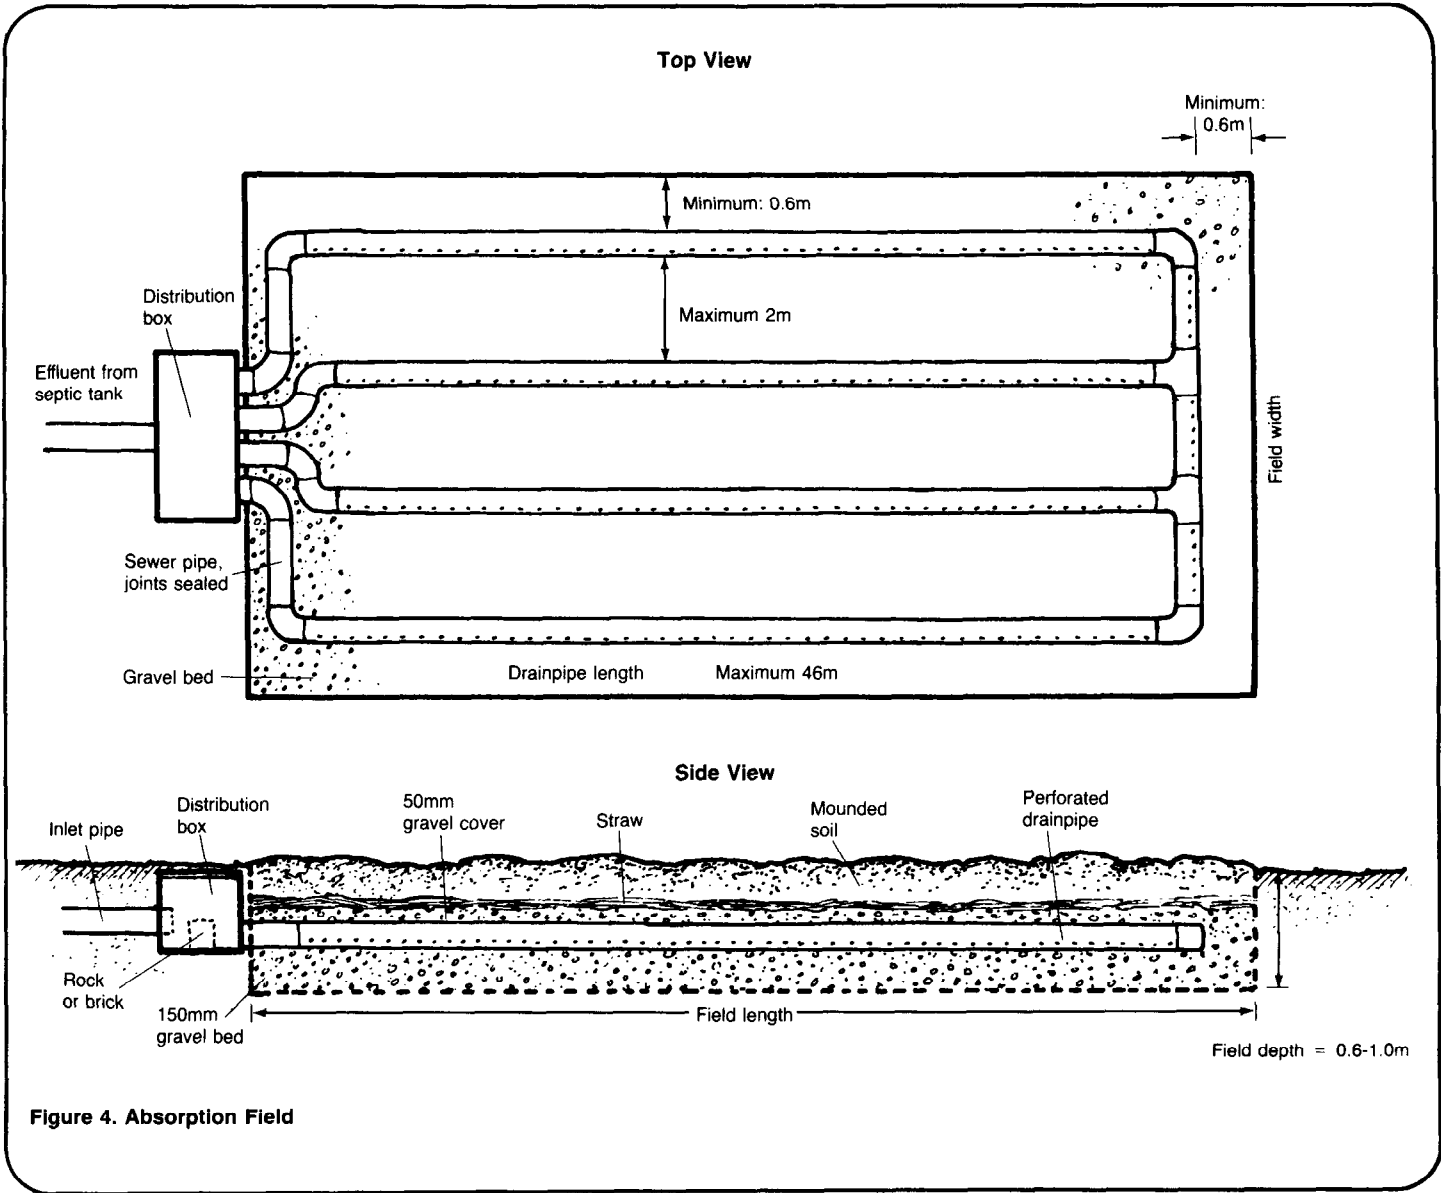
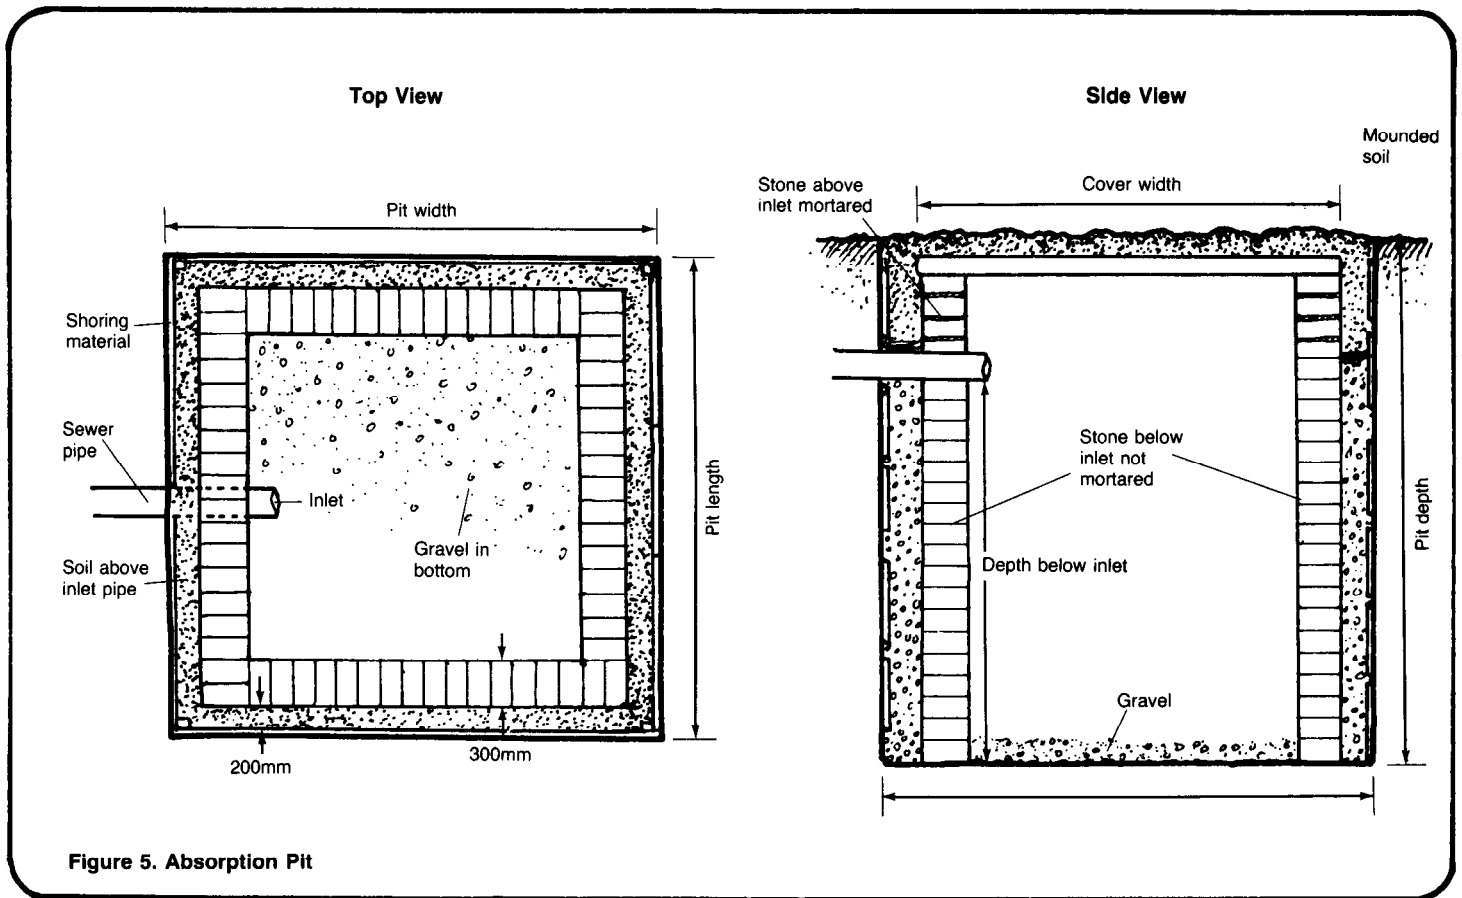
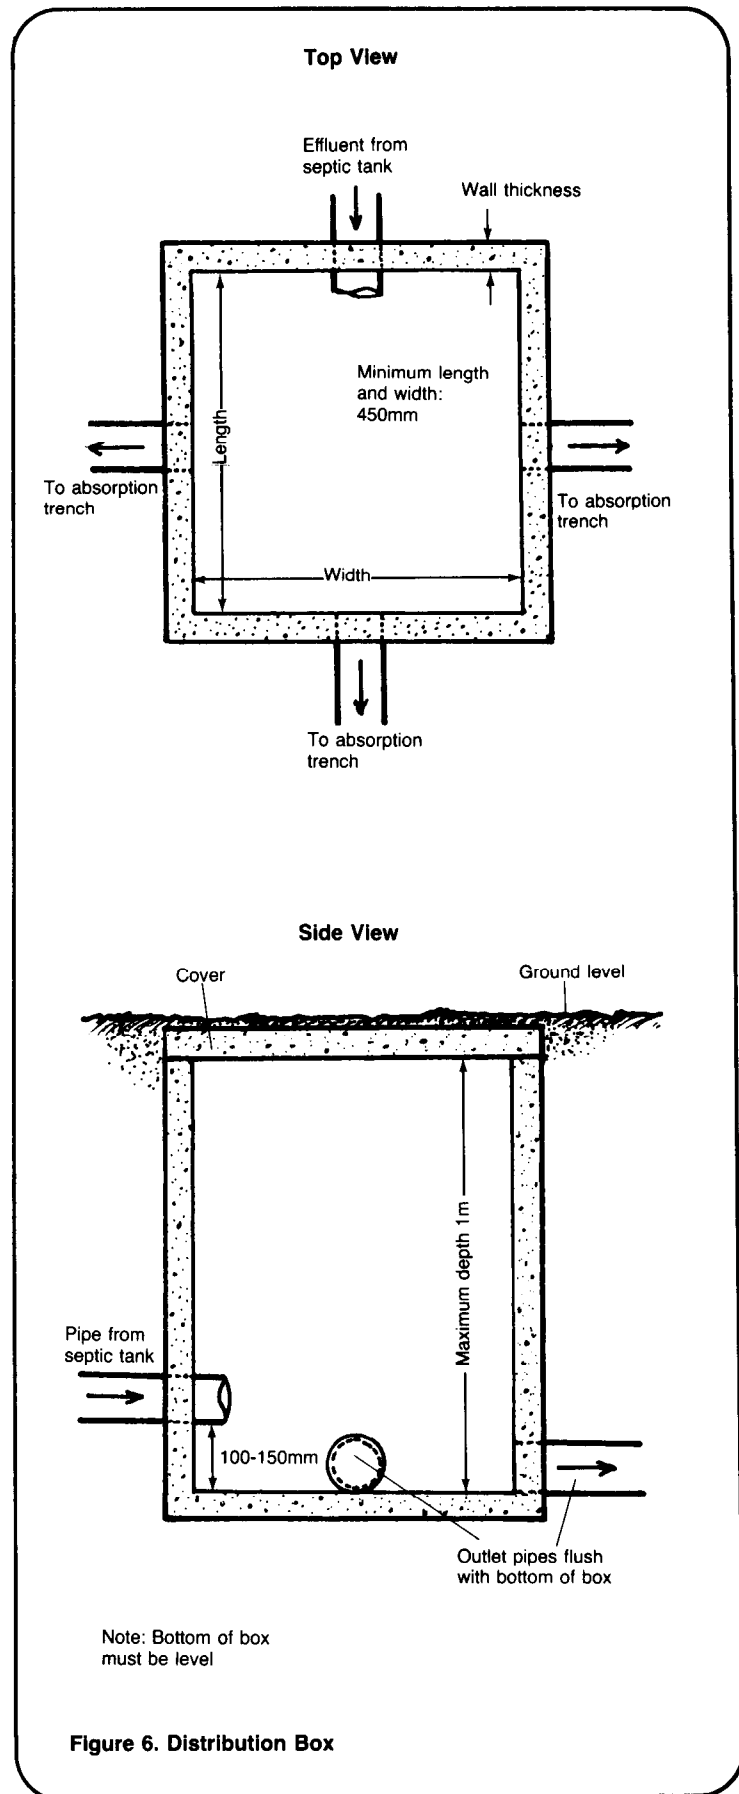
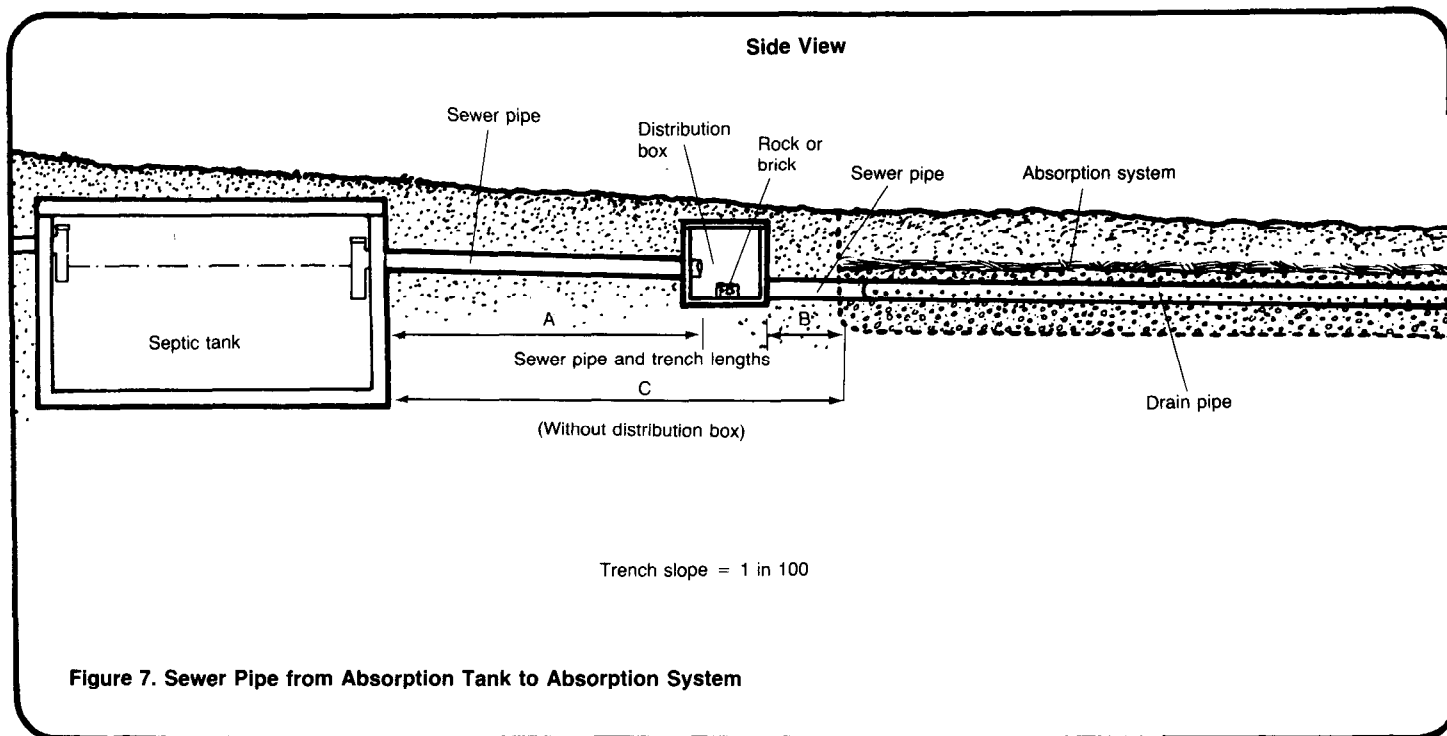

Figure 4. Absorption Field
Figure 5. Absorption Pit
Figure 6. Distribution Box
Figure 7. Sewer Pipe from Absorption Tank to Absorption System
The final dimensions should be written on a technical drawing similar to Figure 4 and given to the construction supervisor.
The final dimensions should be written on a technical drawing similar to Figure 5 and given to the construction supervisor. In addition to showing dimensions, the technical drawing of a trench, series of trenches, field or pit will contain other design information.
If you are designing a distribution box, prepare a technical drawing similar to Figure 6, showing the width, length, and depth of the box, the distance from inlet pipe to floor, and the thickness of the walls if they are concrete. Give this drawing to the construction supervisor before construction begins.
Prepare a technical drawing similar to Figure 4 showing top and side views of the field with the correct dimensions written in. Also, prepare a technical drawing similar to Figure 6, showing the width, length, and depth of the distribution box, the distance from the inlet pipe to the floor, and the thickness of the walls if they are concrete. Give both these drawings to the construction supervisor before construction begins.
Prepare a technical drawing similar to Figure 5 showing top and side views of the pit with the correct dimensions written in, including the length, width, and depth below ground level, the depth below the inlet, the thickness of the side walls and the space between the earth walls and the side walls. Give this drawing to the construction supervisor before construction begins.
Prepare a drawing similar to Figure 7 and write in the correct trench width, depth, and slope; the pipeline length from the septic tank (see "Designing Septic Tanks," SAN.2.D.3) to the distribution box, if any; and from the box to the absorption system. Give this drawing to the construction supervisor before construction begins.
needed. The best way to determine the amount is to consult the technical drawing similar to Figure 5 and add the lengths of the pipelines shown there.
In summary, give the construction supervisor: (1) a location map similar to Figure 1, showing the absorption system in relation to all nearby man-made structures and geological features; (2) technical drawings similar to Figure 7 (for all systems), Figure 2 (for a trench system), Figures 2 and 3 (for a series of trenches), Figure 4 (for a field system), Figure 5 (for a pit system), and Figure 6 (if there is to be a distribution box); and (3) a materials list similar to Table 2 showing labor, materials, tools, and money needed to construct the system.